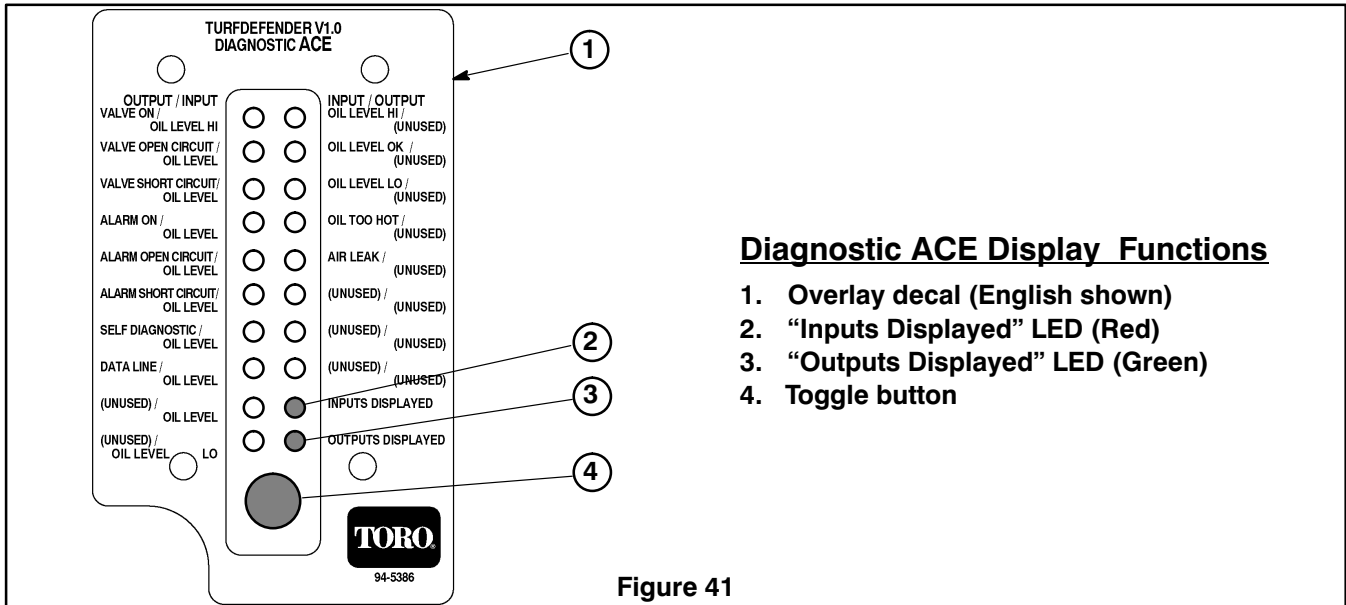

Figure 41
3. Connect the Diagnostic ACE display connector to the correct harness loopback connector. Install TurfDefender overlay decal (supplied with leak detector kit) onto Diagnostic ACE (Fig. 41).
5. The red "Inputs displayed" LED (Light Emitting Diode), on lower right column of the Diagnostic ACE, should be illuminated. If green "Outputs displayed" LED is illuminated, press and release the toggle button, on Diagnostic ACE, to change LED to "Inputs displayed". Do not hold button down (Fig. 41).